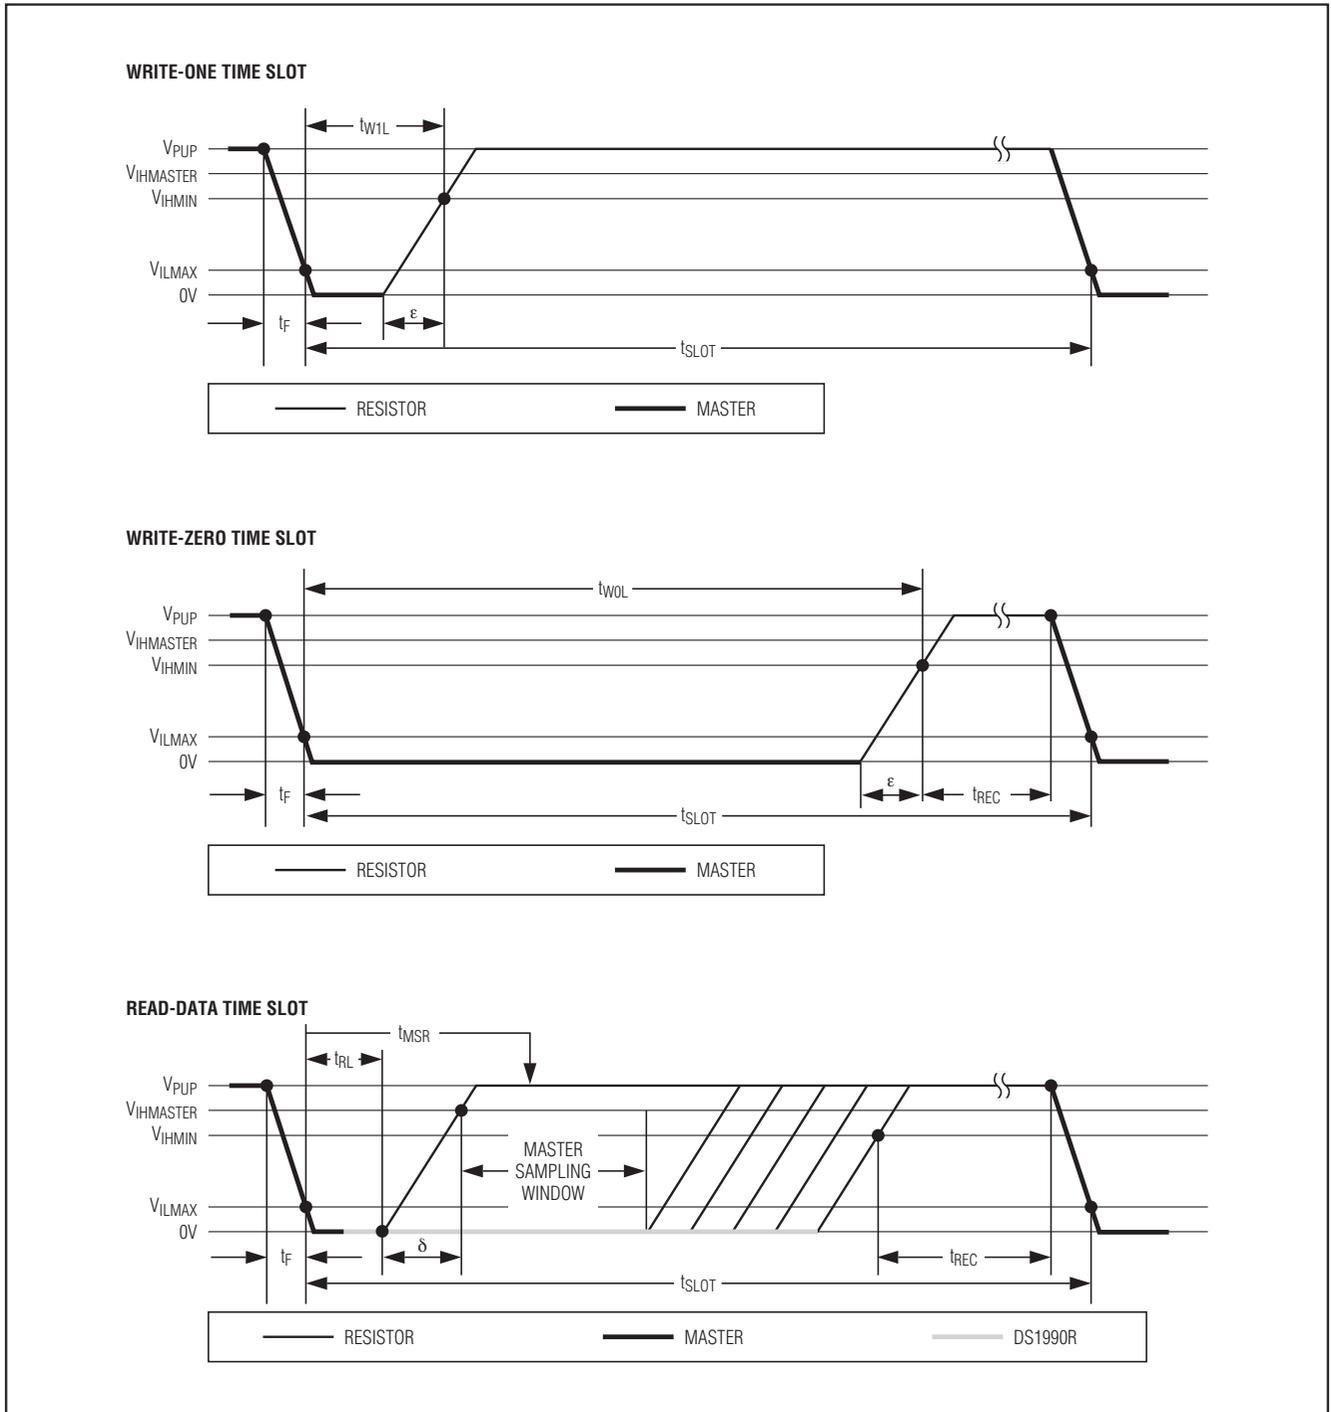

图7. 读/写时序图
- Note 14:**  $\epsilon$  in Figure 7 represents the time required for the pullup circuitry to pull the voltage on IO up from  $V_{IL}$  to  $V_{IH}$ . The actual maximum duration for the master to pull the line low is  $t_{W1LMAX} + t_F - \epsilon$  and  $t_{W0LMAX} + t_F - \epsilon$ , respectively.
- Note 15:**  $\delta$  in Figure 7 represents the time required for the pullup circuitry to pull the voltage on IO up from  $V_{IL}$  to the input-high threshold of the bus master. The actual maximum duration for the master to pull the line low is  $t_{RLMAX} + t_F$ .
与DS1990R的数据通信按时隙进行，每时隙传输一位。数据在写时隙由总线主机传输到从机，数据在读时隙由从机传输到主机。图7给出了写时隙和读时隙的定义。